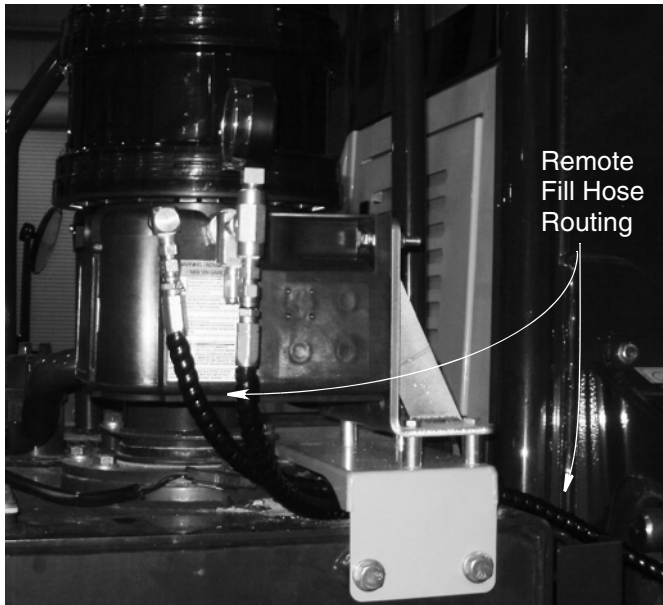

FIG. 49
4. Route the hose between the G3 pump and remote fill along a path under the filter bracket and behind the cab to the remote fill as shown in FIG. 49.